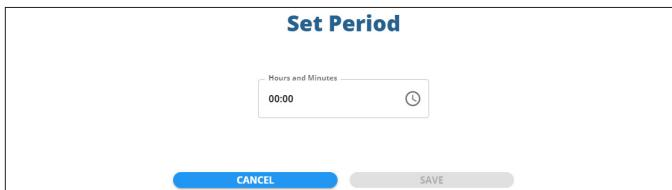

Fig. 96—Tap the numbers in the hours and minutes field to set the period.
1. Press the Set Period button to set the length of time in between well plate scans. A popup displays (Fig. 96). Enter into the field a four-digit number (HHMM) to set the hours and minutes or click on the clock icon to reveal a graphical helper (Fig. 97). Use the spinner to select the hours. You may select from 1 to 23 hours. The first 12 hours are on the outside of the spinner, and the inner spinner is used to set 13 – 23 hours. After you make that selection, the spinner displays minutes and you may use the dial to set the number of minutes in the period (Fig. 98). Then, press the SAVE button to save the changes.